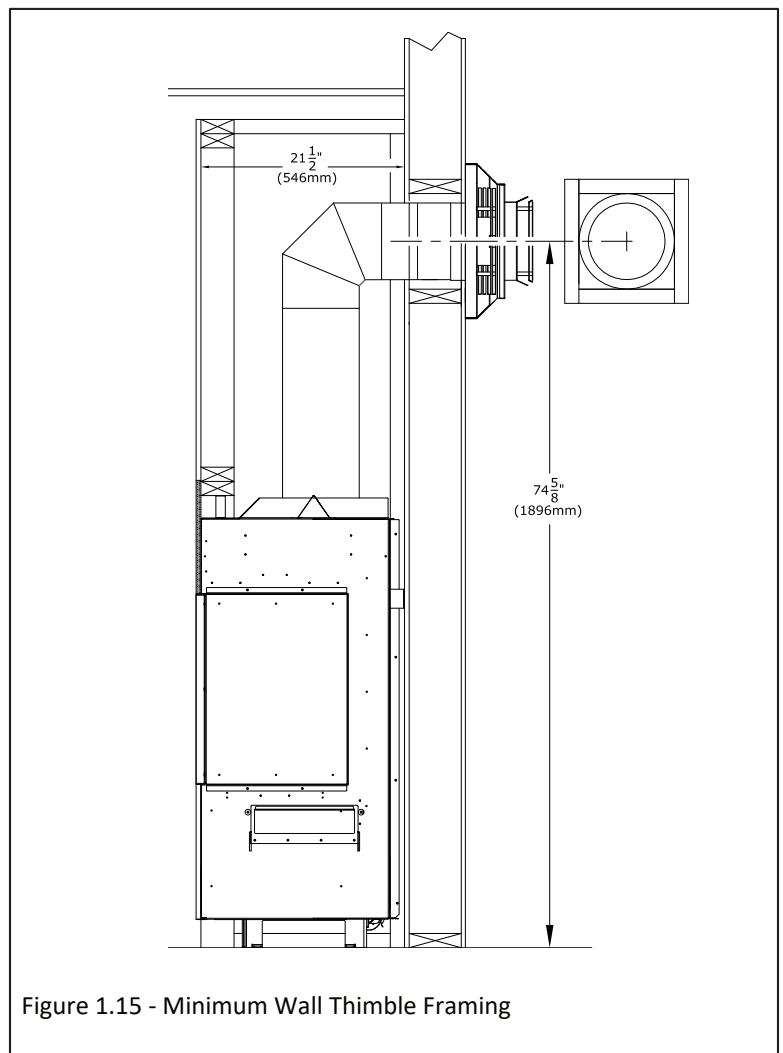

Figure 1.15 - Minimum Wall Thimble Framing
- Follow Figure 1.15 for minimum rough-in dimensions.
1. Measure from floor level of the fireplace to the center of where the vent pipe will penetrate the wall. The dimensions in Figure 1.15 are used with Simpson DuraVent vent pipe.